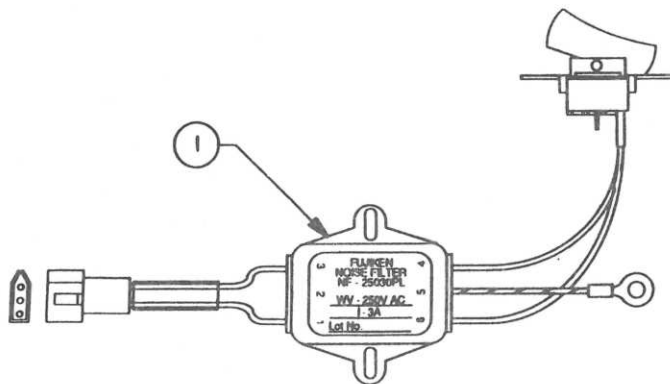

FIGURE 6
- 5.5 Noise Filter (Figure 6)
□ NOISE FILTER (Figure 6)
(Figure 6)